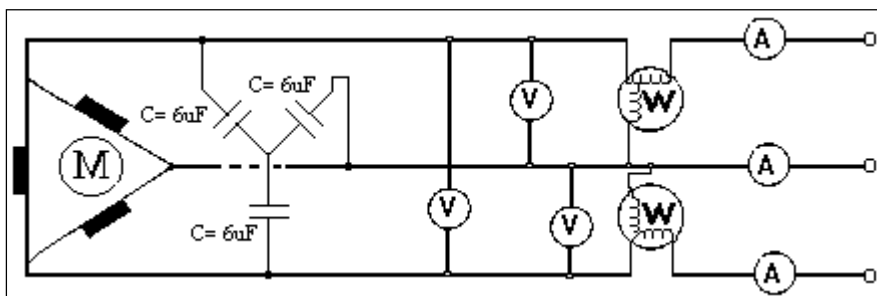

Figure 3.6: 3-phase induction motor  $\Delta$ -connected with capacitors Y-connected.
- Repeat step (2).
- Now connect the capacitor bank ( $6\mu\text{F}$  Y-connected) across the terminals of the motor as in figure 3.6.